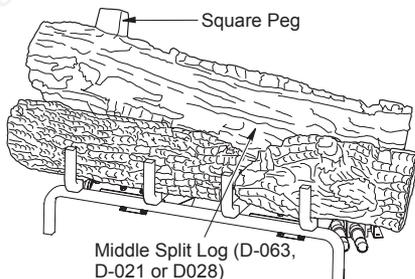

Figure 26 - Installing Middle Split Log (D-021)
5. Find the middle split log (VFGT24 inch models: D-063 or VFGT30 inch models: D-021 or VTGF36 inch models: D-028). See Figures 26 and 26A. The split side of the log faces forward. The log has a notch that fits around the burner tube on the right side. The left side of the burner tube fits into the notch on the back side of this log. The log is placed properly when it sits parallel to the tube burner and the square peg is pointing up. See figures for reference.